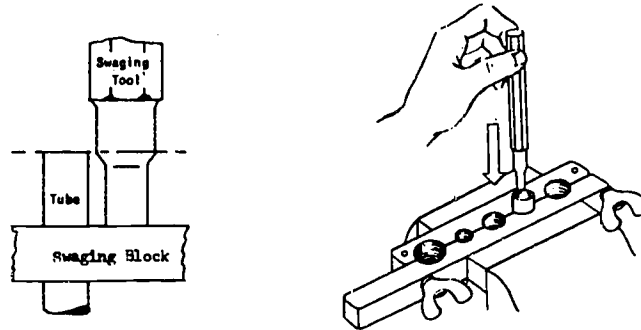

Figure 3. Swaging Block
2. Insert one piece of the copper tubing in the swaging block as illustrated in figure 3.